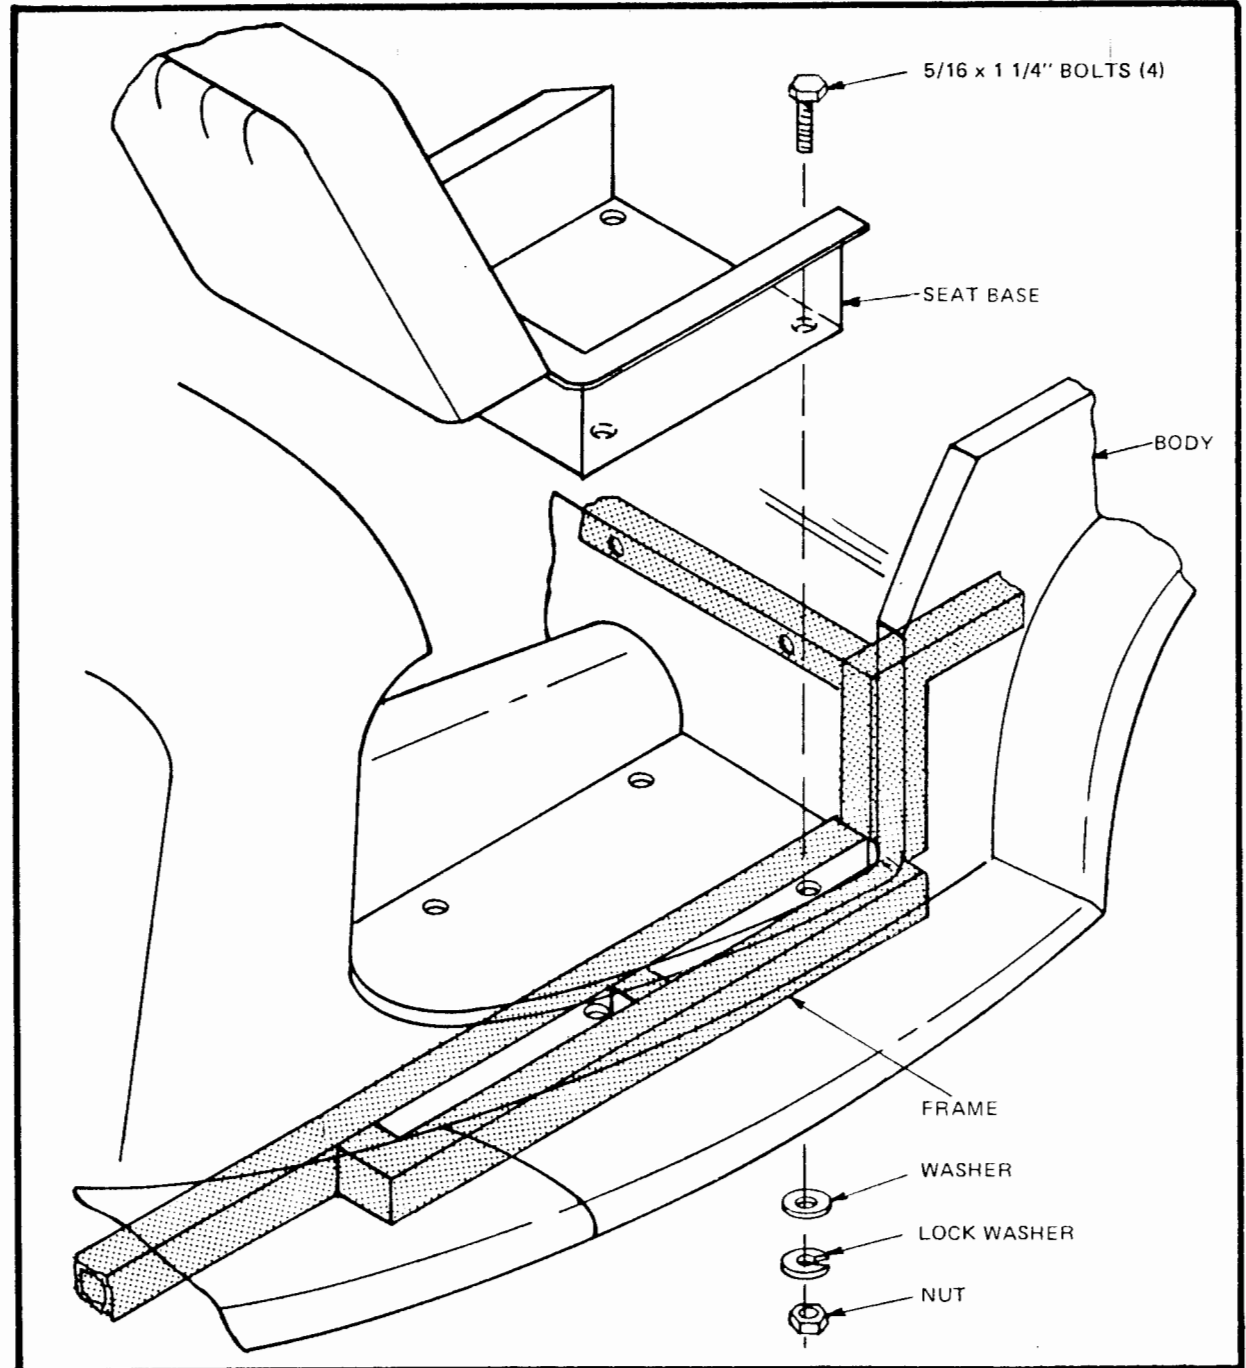

Figure 78
- Using a 3/8" drill bit, drill 4 holes through the bottom of the seat base and through the liner. The two outside bolts should pass between the two main frame rails. Bolt using 5/16 x 1 1/4" bolts with flat washers, lock washer and nut. Use a flat washer on each side to spread the load. (Figure 78)